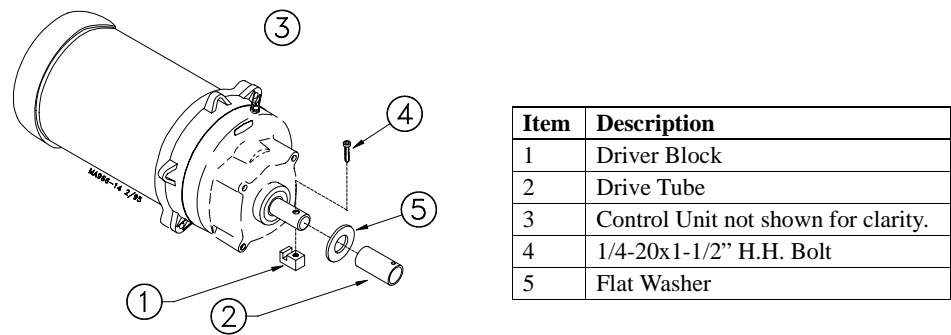

Figure 52. Auger Driver Components
4. Slide the Drive Tube and flat washer over the output shaft on the Power Unit, as shown in Figure 52.
6. Attach the auger to the output shaft of the Power Unit, as shown in Figure 52. Use the Drive Block to secure the auger to the Output Shaft.